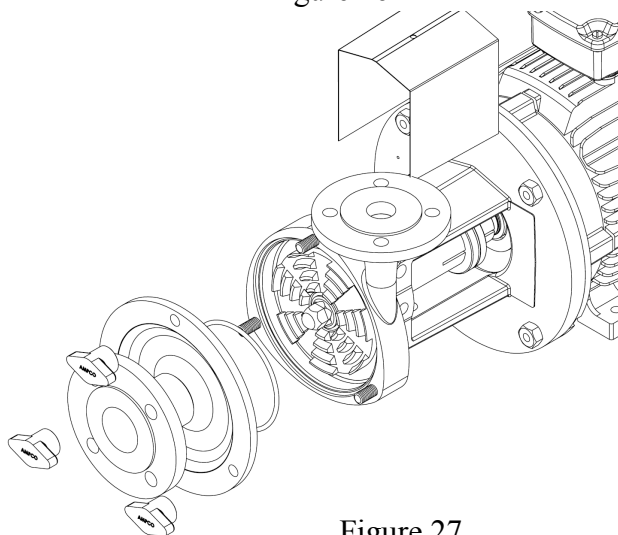

Figure 27
10. Replace cover gasket, cover, wing nuts, and shaft guard, figure 27. When replacing the cover, depending on the style of connection, the cover may only be installed correctly with only one orientation. Note the orientation of flange bolt hole patterns before installing the cover. Make sure the wing nuts are tight and turn the impeller slowly with a 15/16" socket, extension and ratchet to check if impeller turns freely. If the impeller does not turn freely do not force it to turn and absolutely do not run the pump. Reset the impeller clearance.